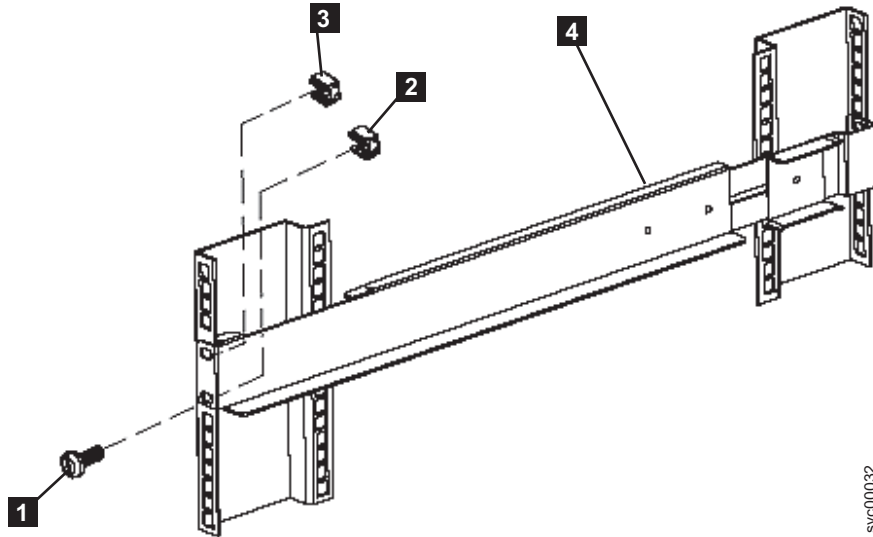

Figure 10. Securing the front rail on the 2145 UPS-1U
8. Attach only the bottom hole of the rail to the front of the rack with one M6 × 10 screw and one clip nut (**1** in Figure 10 on page 18).